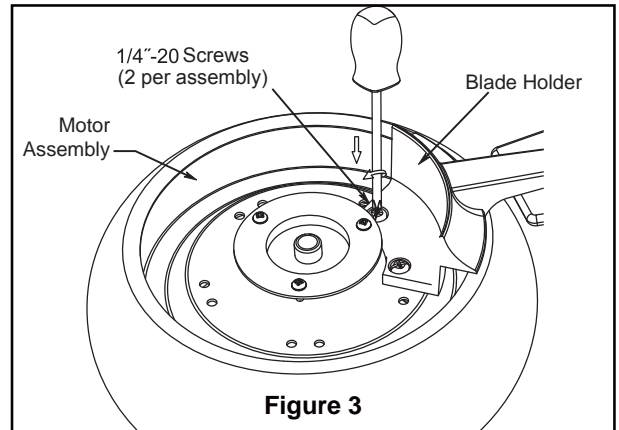

Figure 3
3. Secure the blade holders to the bottom of the motor assembly using the 1/4"-20 screws from the hardware bag. (Figure 3)
3. Remove one of the three screws in the light plate assembly and retain the screw for later. Slightly loosen the remaining two screws. (Figure 3)